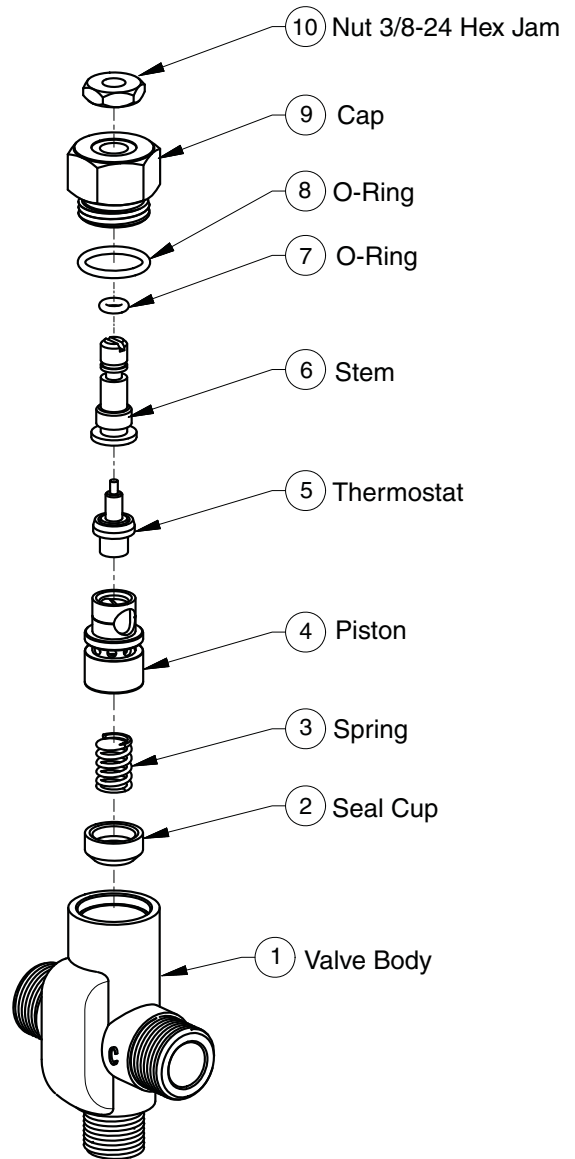

Figure 11
1. Remove the valve's cap and thermostat (see Figure 11 on Page 23).